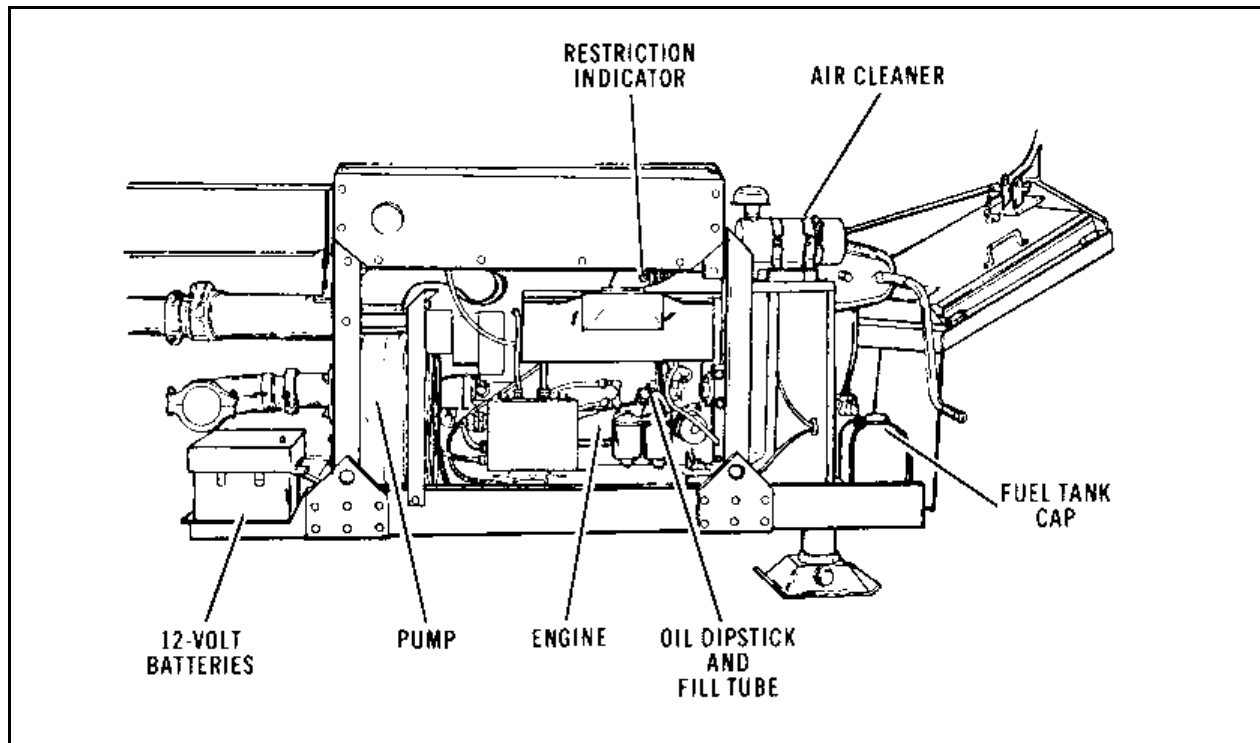
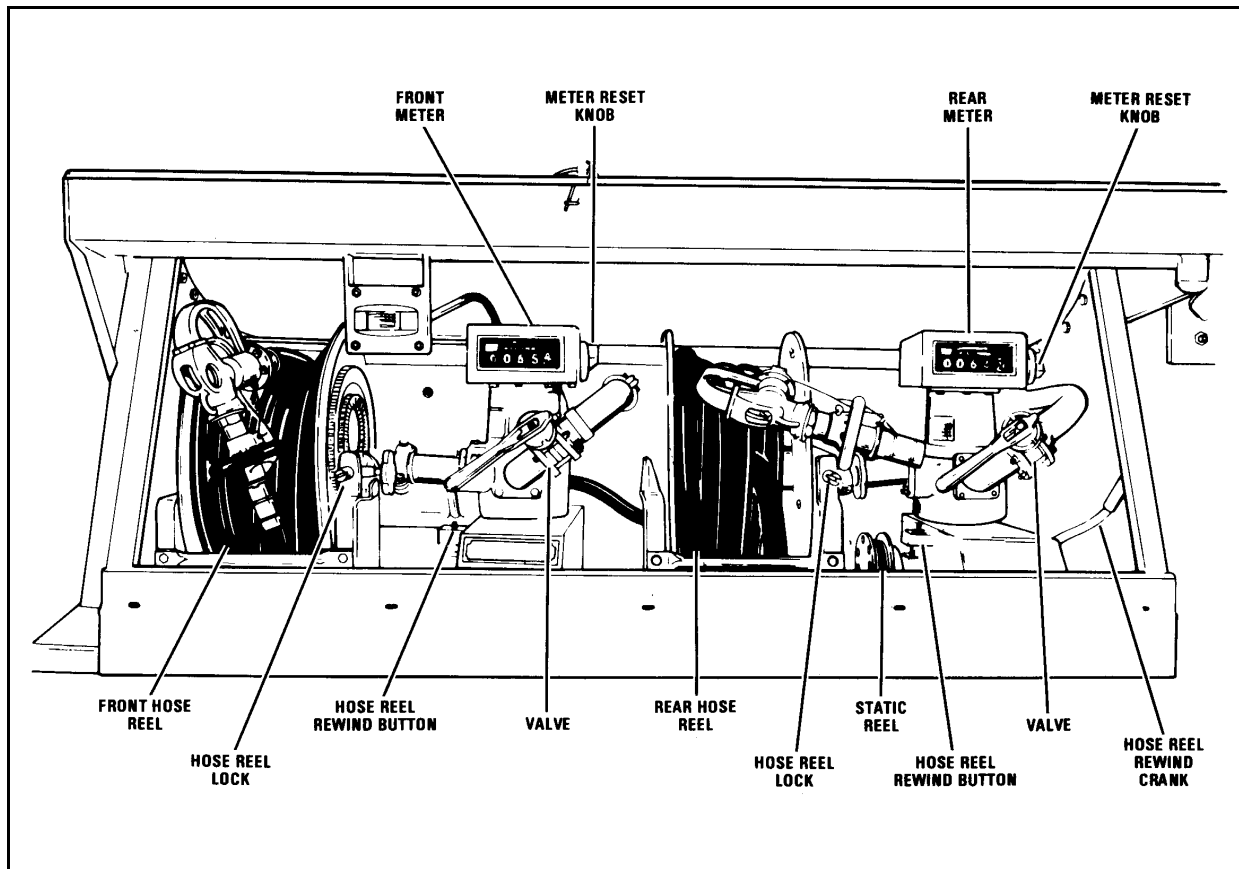

Figure 24-19. Pump and engine assembly of M969 tank semitrailer
Figure 24-20. Hose reel cabinet of M969 tank semitrailer
- **Tank body and equipment.** The M969 has the same equipment that is included with the M967. It also has the equipment needed for automotive refueling and limited aircraft refueling. This equipment is mounted on the sides of the vehicle. The filter/separator, the pump and engine assembly as shown in Figure 24-19, page 24-17, the engine's fuel tank, the landing gear crank, the emergency shutoff valve, a hose trough, and the battery compartment for two batteries are located on the curbside of the M969. A hose trough, a portable grounding rod, a control panel, the manifold valving, and a hose reel cabinet as shown in Figure 24-20, page 24-18, are on the roadside of the vehicle.